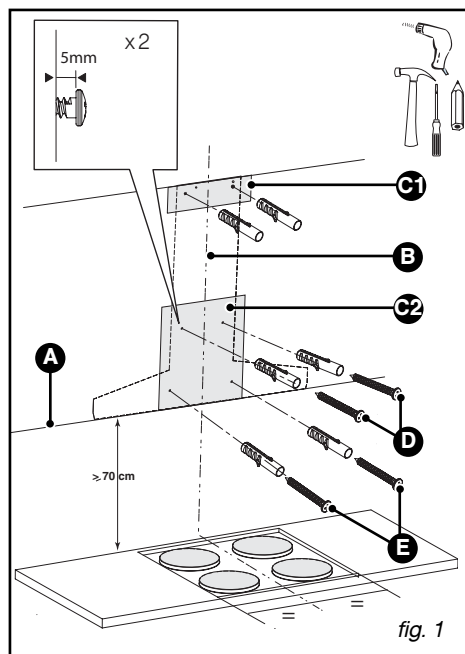

fig. 1
– Place the C1 template (fig. 1) against the wall flush with the ceiling.
– Screw in the top two screws for the hood (D/fig. 1), leaving 5 mm sticking out from the wall.